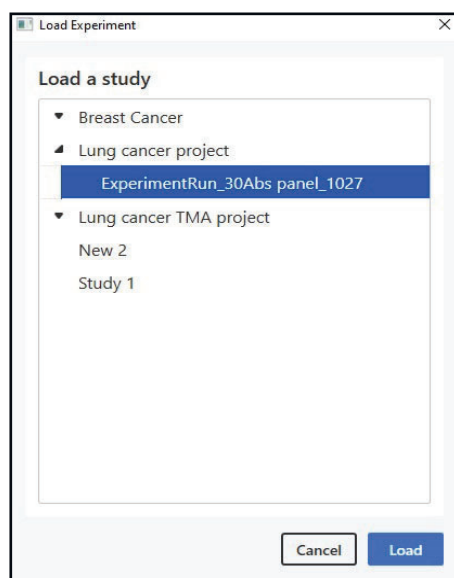

Figure 4.20. Load a Study window.
2. Select the desired saved protocol in the available Study folders. (See Figure 4.20.)